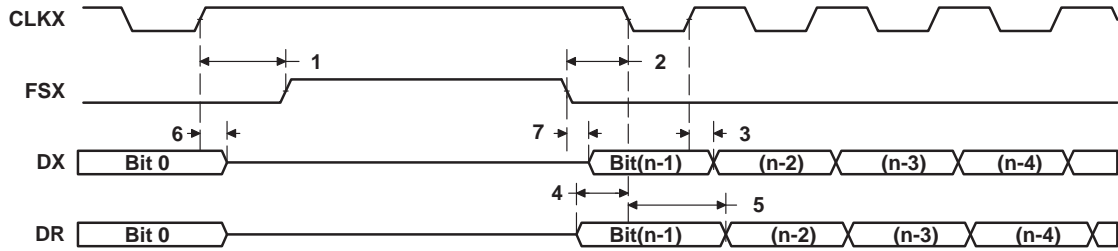

Figure 37. McBSP Timing as SPI Master or Slave: CLKSTP = 11b, CLKXP = 1
timing requirements for McBSP as SPI master or slave: CLKSTP = 11b, CLKXP = 1†‡ (see Figure 37) ('C6201)
switching characteristics for McBSP as SPI master or slave: CLKSTP = 11b, CLKXP = 1†‡ (see Figure 37) ('C6201)
**timing requirements for McBSP as SPI master or slave: CLKSTP = 11b, CLKXP = 1†‡ (see Figure 37) ('C6201B)**
**switching characteristics for McBSP as SPI master or slave: CLKSTP = 11b, CLKXP = 1†‡ (see Figure 37) ('C6201B)**